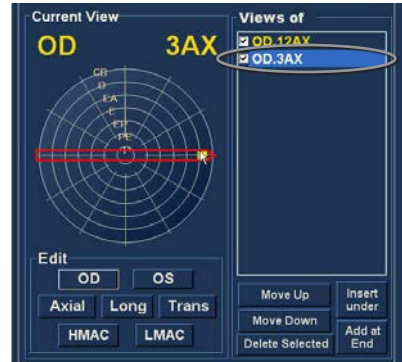

Figure 4.23 - Change Probe Orientation
5. When you arrive at the appropriate position for the probe in the newly added sequence scan release the position indicator. The new position will be reflected in the label for the new sequence scan as shown in Figure 4.23. The indicator stopped at 3:00 AX and the label for the scan was changed from OD.Scan to OD